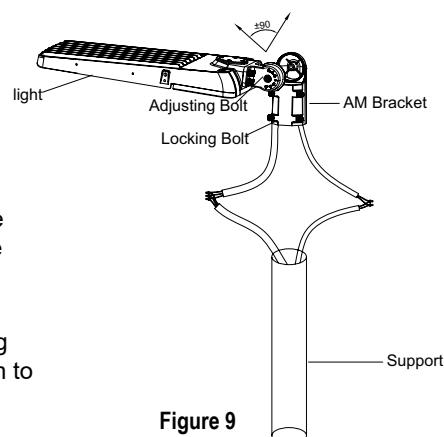

Figure 9
1. Connect the power supply wires to the fixture input wires (see Wiring Diagrams on page 2). Place the wires inside the pole and place the slipfitter knuckle onto the support pole. Secure it by tightening the four (4) locking bolts on the mount. (See Fig. 9)